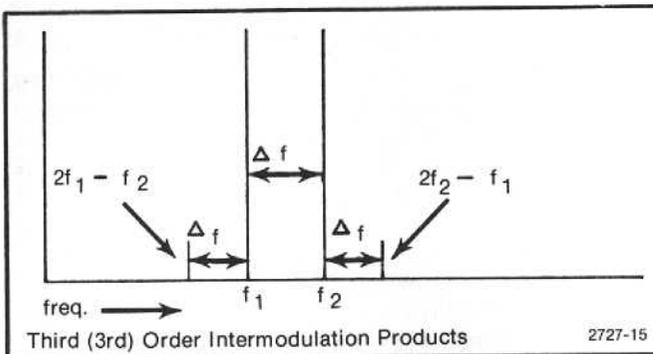

Fig. 3-14. Intermodulation products.
d. Check third order intermodulation products (see Fig. 3-14). Ensure that third order products are  $-70$  dB or more down from the input signal level.